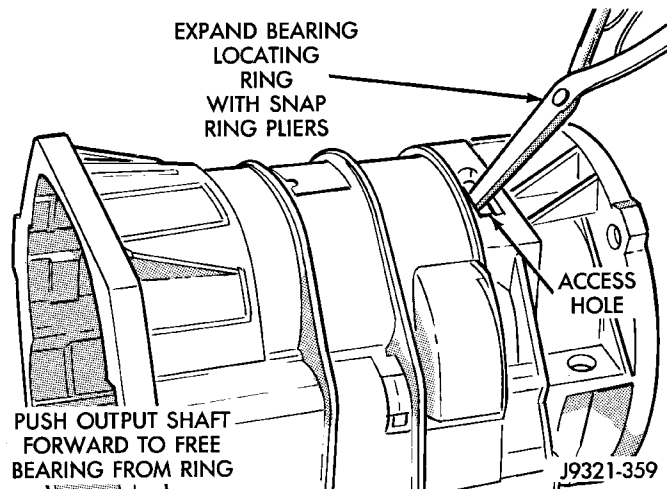

Fig. 243 Seating Locating Ring In Rear Bearing
(9) Expand front bearing locating ring with snap ring pliers (Fig. 243). Then slide case downward until locating ring locks in bearing groove and release snap ring.